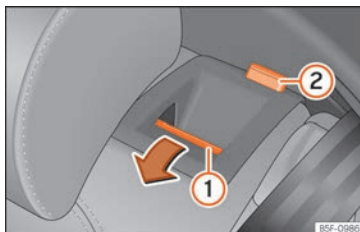

Fig. 152 On the rear seat backrest: release button ①; red mark ②.
- Press the unlock button »» **Fig. 152** ① forwards and at the same time fold the backrest down. The rear seat backrest is not engaged when the red marking of the button ② is visible.